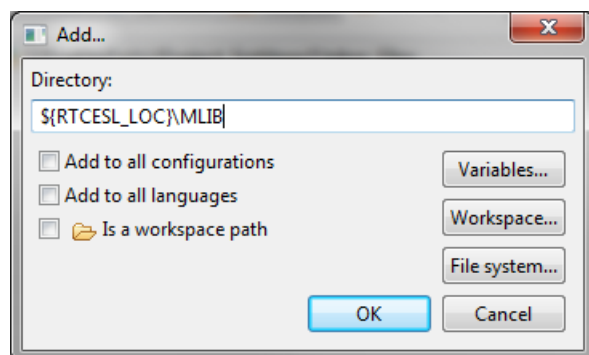

Figure 1-6. Library path inclusion
5. Look for the RTCESL_LOC variable by clicking Variables..., and then finish the path in the box by adding the following (see Figure 1-6): `${RTCESL_LOC}\MLIB`.